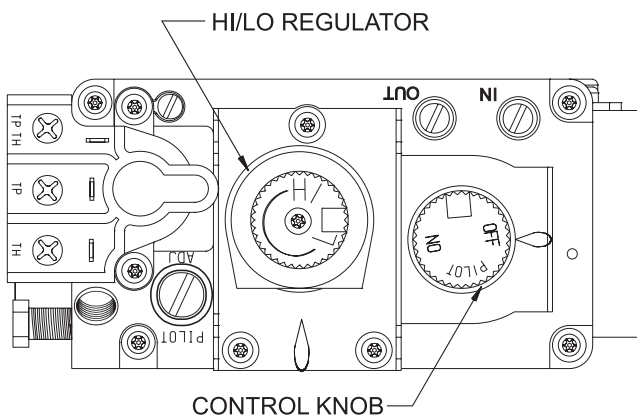

Figure 62
**NOTICE:** The gas control valve allows you to increase or decrease the height of the main burner flame. The control valve has a pressure regulator with a knob as shown in **Figure 62**. Rotate the knob clockwise to “HI” to increase the flame height and counterclockwise to “LO” to decrease the flame height.